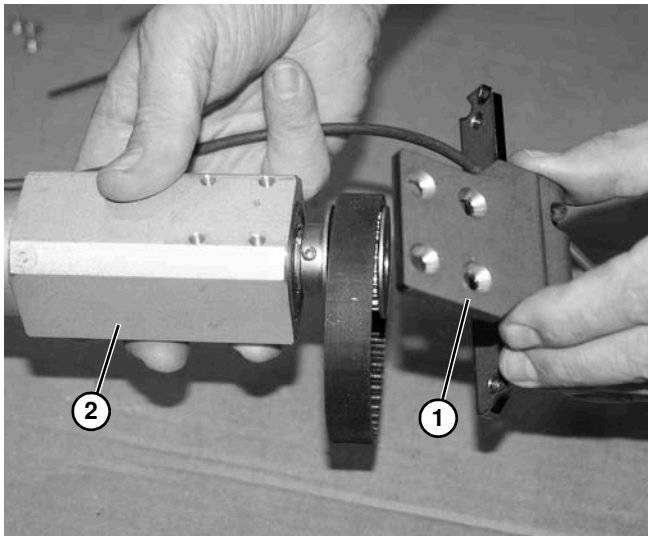

Figure 104
10. Remove motor mounting bracket (**Figure 104, item 1**) from motor (**Figure 104, item 2**).